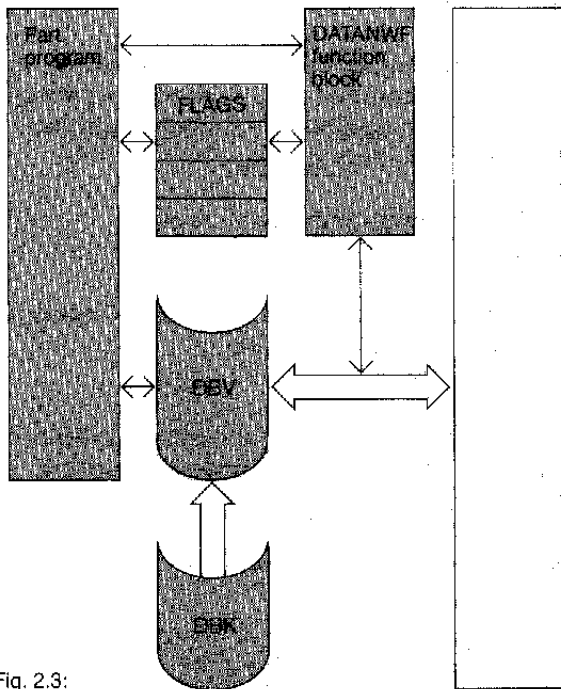

Fig. 2.3:
The data are transferred to the WF 625 via a data block for variables (DBV), which must be situated in the RAM. The basic adjustments (e.g. machine data) are filed in the data block for constants (DK), which can be situated in the EPROM range. Upon restarting, the DBK is copied into the DBV (Fig. 2.3).